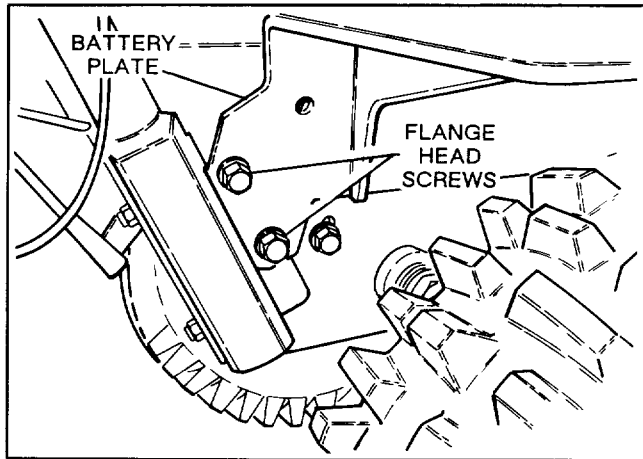

Figure 9
10. For easier access, tip unit on end and remove right wheel. Secure rear of battery mounting plate and handle bracket to engine frame with two 19 mm ( $\frac{3}{4}$ " ) lg. flange head screws (Fig. 9).